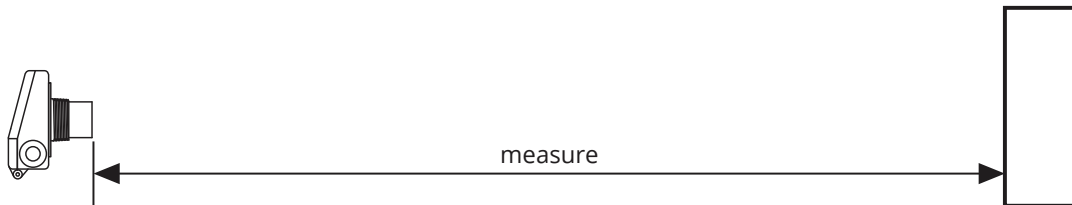

Figure 4.1
- Point the sensor at a target at a known distance near the maximum range of the sensor, 25' for a single solid object (See Figure 4.1).